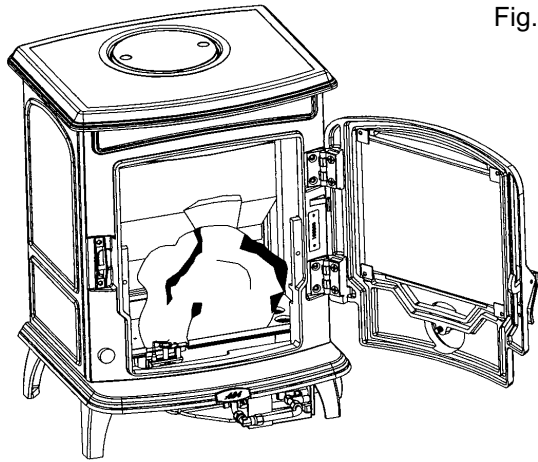

Fig.7
1. Open the fire door (item 9), and remove the package of ceramic coals. (See Fig.7)